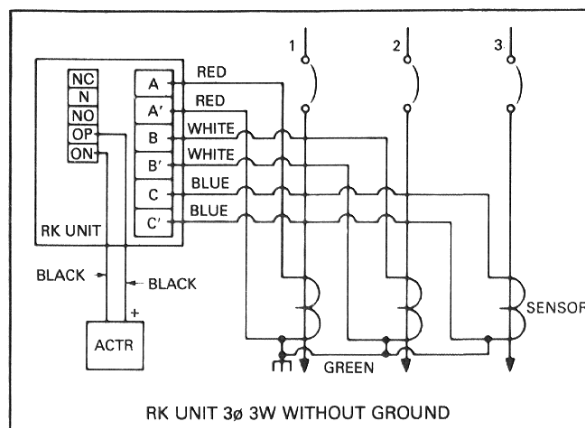

Fig. 9 Wiring Diagram
1. Acquaint yourself with the appropriate wiring scheme, see Fig. 9.